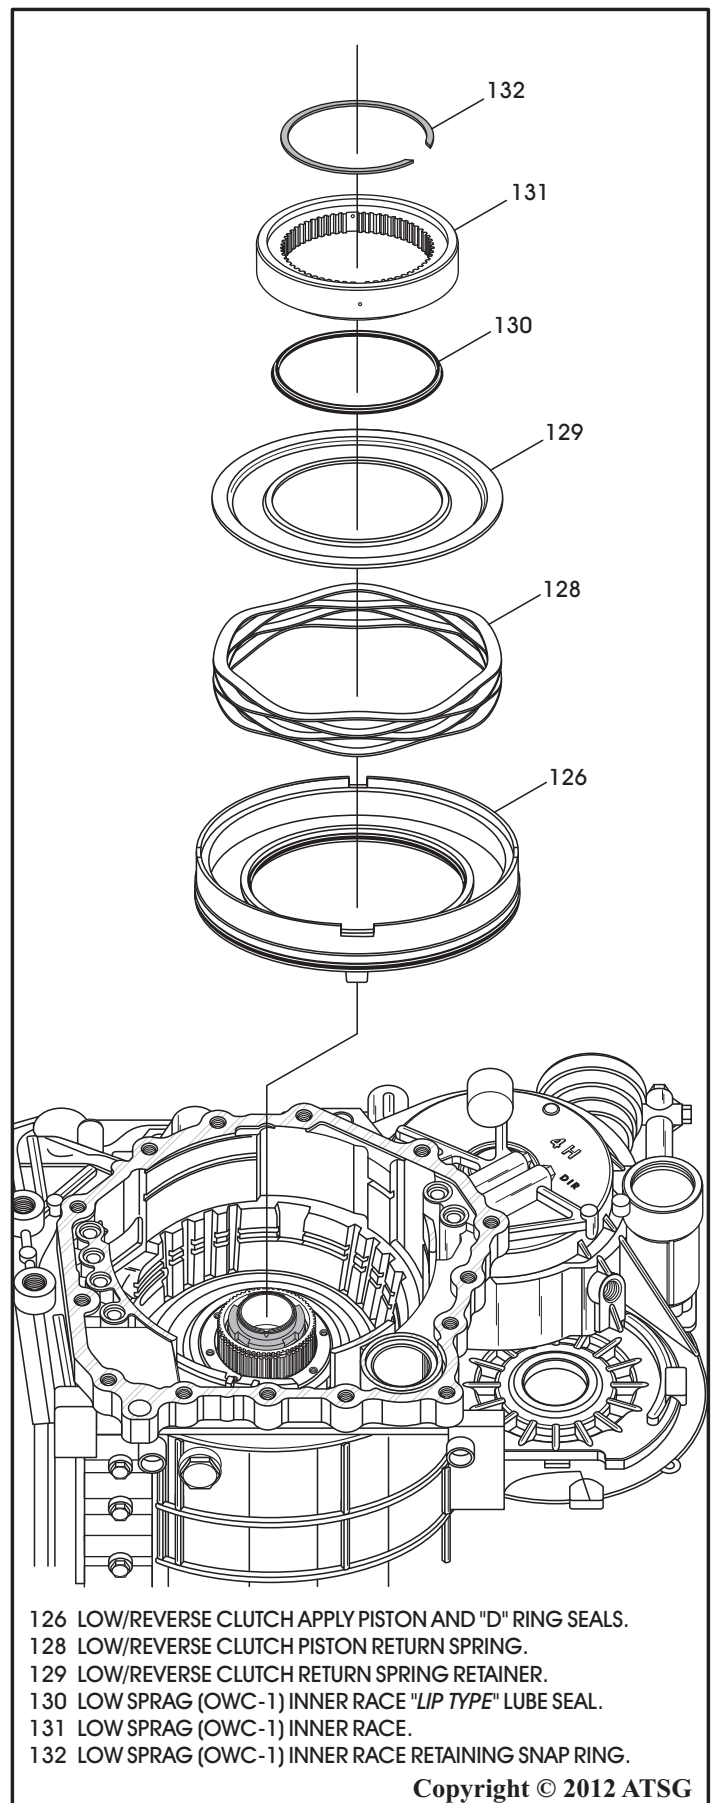

Figure 237
2. Install the low/reverse piston assembly into the case, as shown in Figure 237.
3. Install the low/reverse piston return spring into the case, as shown in Figure 237.
4. Install low/reverse clutch return spring retainer into the case, as shown in Figure 237.